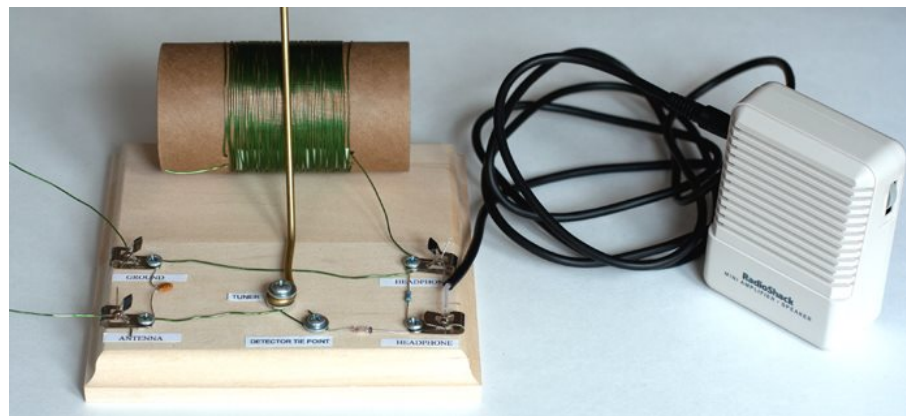

Figure 19. A diagram of A completed crystal radio. The two wires leaving the left side of the picture connect to the ground rod and antenna respectively.
14. As a last step, install the felt footpads on the bottom of your crystal radio. Congratulations! You have finished building your crystal radio. It should look like the completed radio shown in Figure 19. You are now ready to move on to the next section, *Testing Your Crystal Radio*.